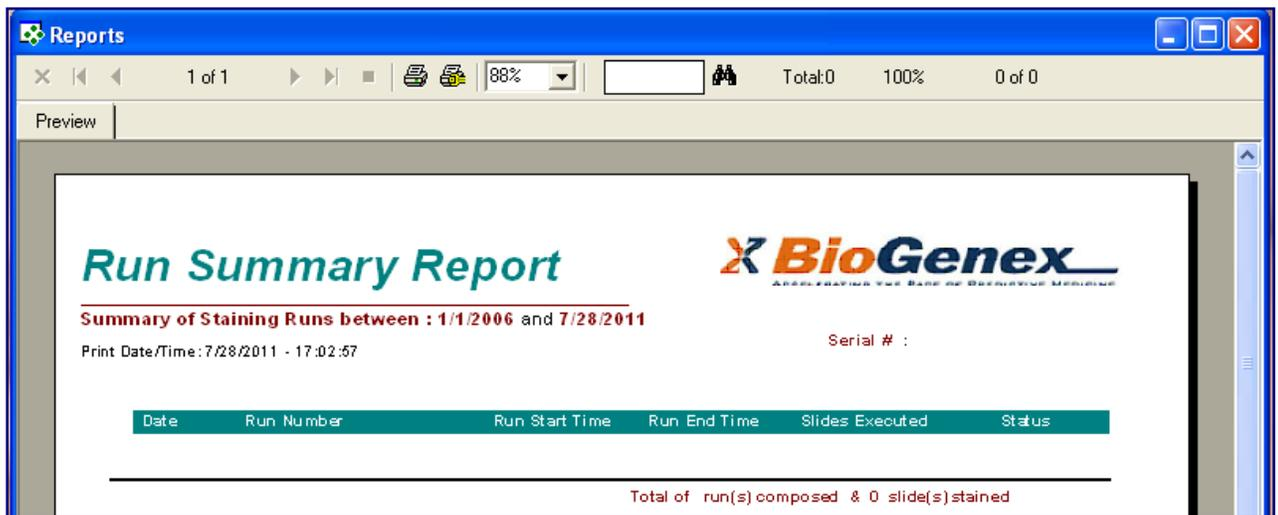

Figure 73: Run Summary Report print view
2. Select the date (or date range), run number, or catalog number of the report (Figure 73).